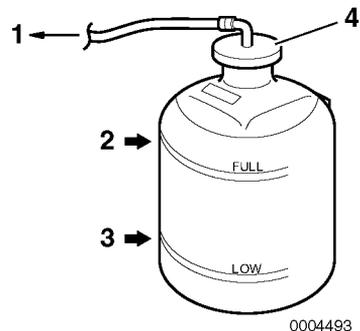

Figure 11
5. Check the coolant level in the reservoir. The level should be at the FULL mark (**Figure 11, (2)**). Add coolant if necessary.
6. Remove reservoir cap (**Figure 11, (4)**) to add coolant if necessary. Do not add water.
8. Check the rubber hose (**Figure 11, (1)**) connecting the reservoir to coolant tank/heat exchanger. Replace if damaged.